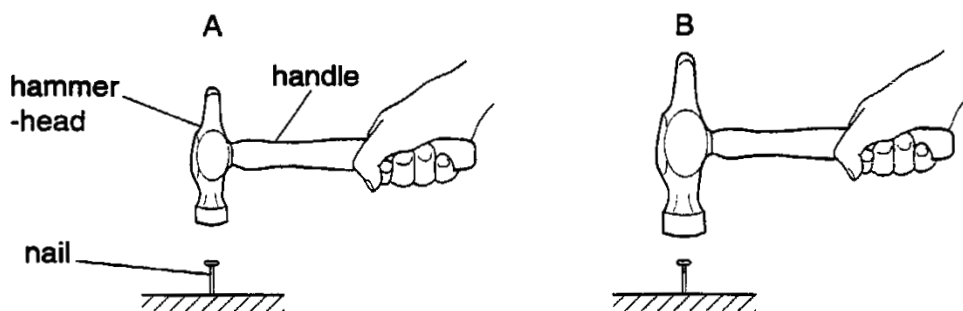

Fig. 2
The hammers A and B shown in Fig. 2 consist of steel hammer-heads of different weights fitted to identical wooden handles.
- (a) (i) Which hammer-head causes the greater moment about the end of the handle when the hammer is held horizontally, as shown in Fig. 2 ?